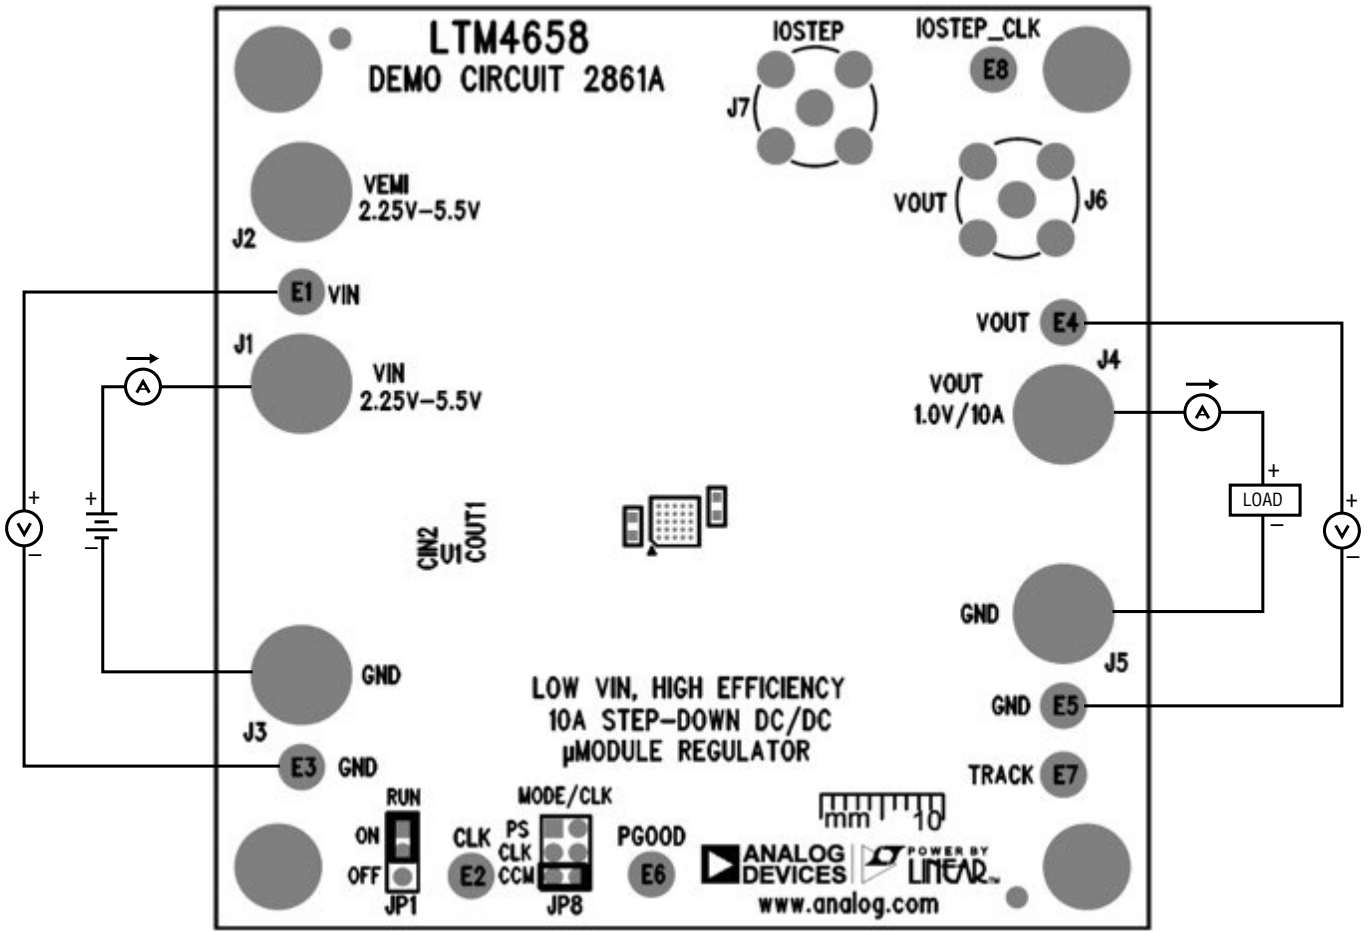

Figure 1. Measurement Setup of DC2861A
Demonstration circuit 2861A is an easy way to evaluate the performance of the LTM4658. Please refer to Figure 1 for proper measurement equipment setup and follow the procedure below:
- With power off, connect the input power supply, load and meters as shown in Figure 1. Preset the load to 0A and  $V_{IN}$  supply to 3.3V.